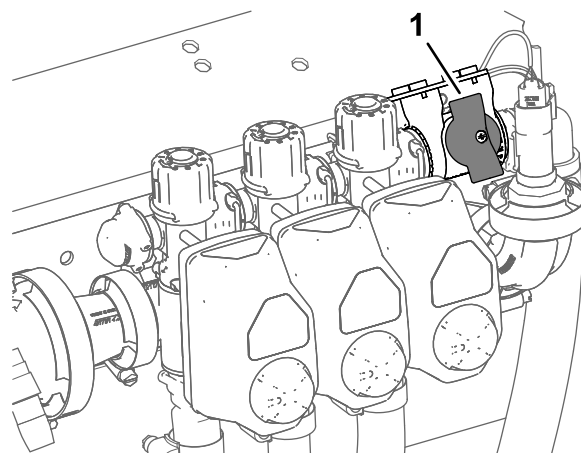

Figure 46
5. Rotate the knob for the section-bypass shutoff valve to the closed position (Figure 46).